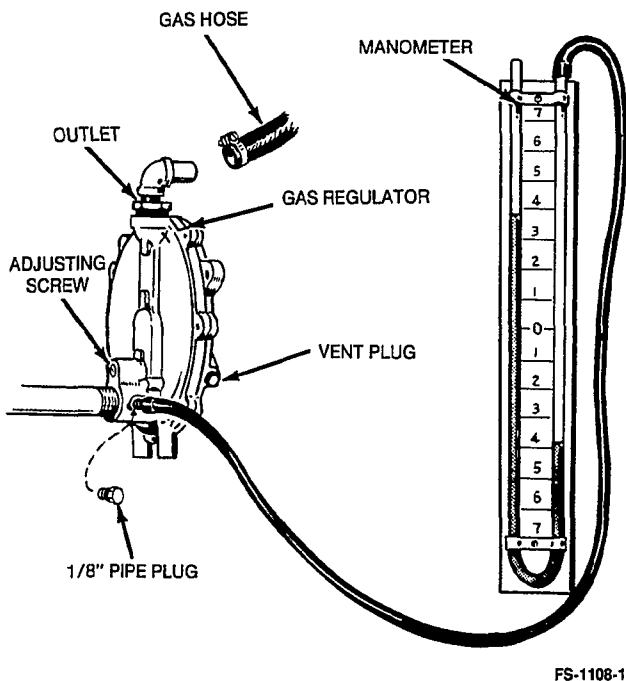

FIGURE 6-36. MANOMETER TESTING (IF REQUIRED)
1. Close the gas supply valve at the fuel tank(s) and remove the 1/8 inch pipe plug from the regulator test hole. See Figure 6-36.